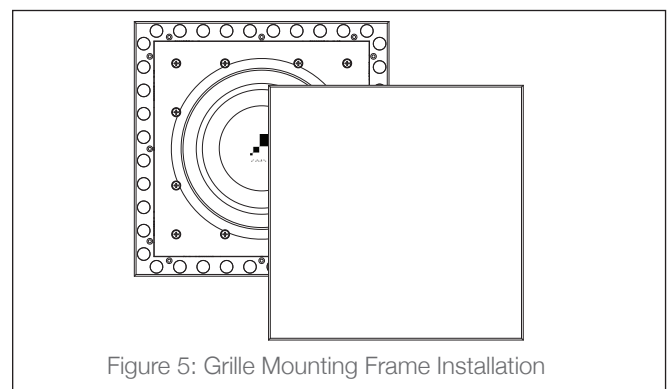

Figure 5: Grille Mounting Frame Installation
3. Install the grille on to the grille mounting frame. The powerful Neodymium magnets will attract the grille very quickly. Care should be taken to align the grille correctly before placing it close to the grille mounting frame (see Figure 5).